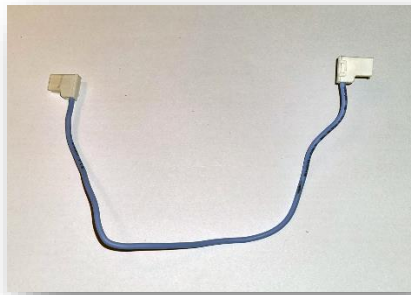

Fig. 2.4
- Remove from 2 (Steam Btn. right-down position) the bleu wire with white plugs. (this cable make connection between 2 and Z (3 way solenoid valve))(fig. 2.4)